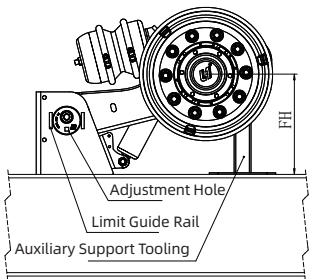
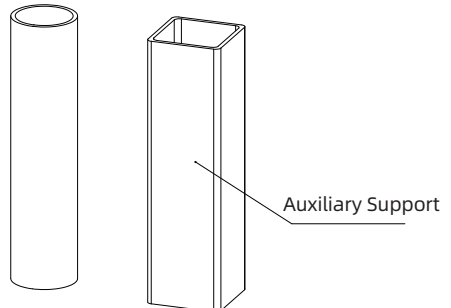

Fig. 5
Fig. 6
(7) Place the auxiliary support and adjust the axle to the installation height FH. (see Fig. 5 and Fig. 6).
Note: The length of the auxiliary support varies according to the suspension installation height FH, with no restrictions on shape and material (see Fig. 6).